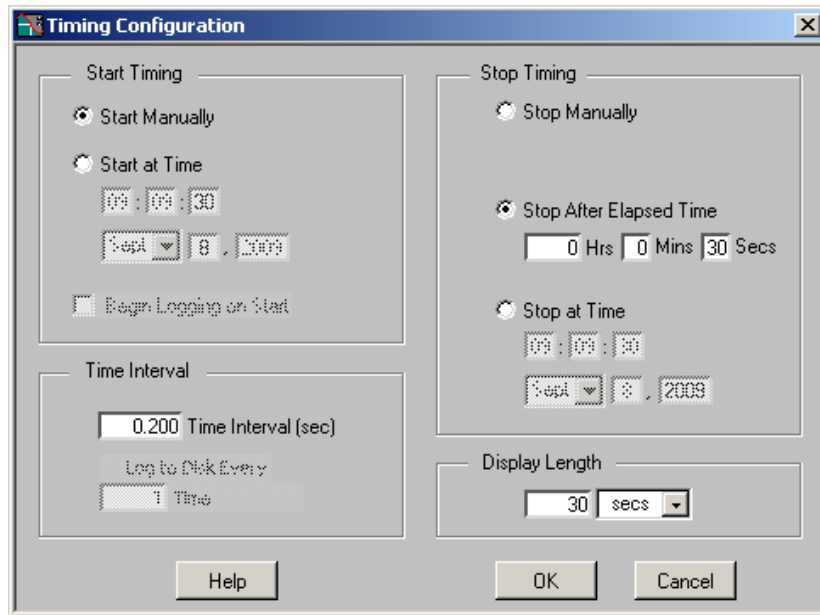

Figure 9. Data Logger Timing Configuration Window
- In the **Timing Configuration** window of Figure 9, set the *Time Interval* = (1/sampling rate), to 0.20 sec (this is compatible with the filtering selection).